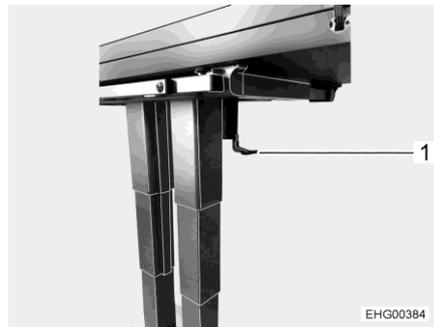

Fig. 94 Table, underside
- Fold down the catch lever (Fig. 94,2).